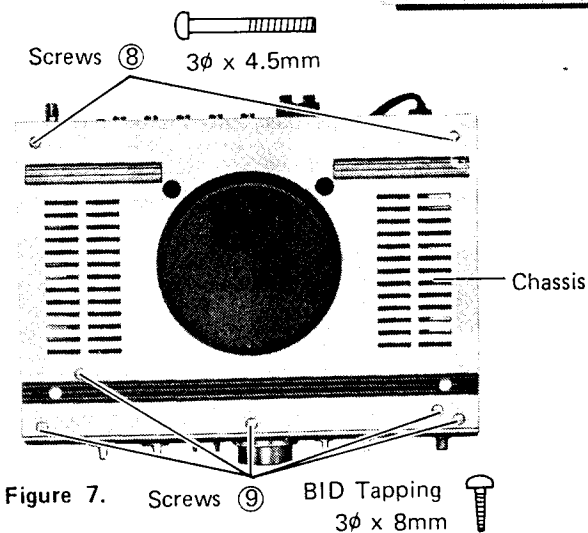

Figure 7.
2. Remove seven screws ⑧, ⑨. See Figure 7.